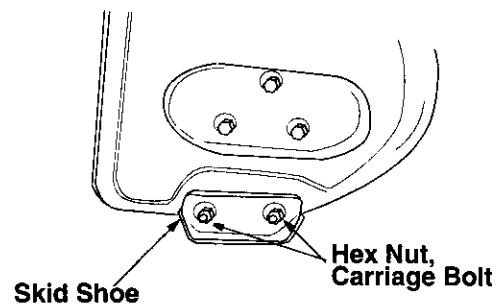

Figure 16
- For snow removal from uneven ground like gravel, adjust skid shoes downward to create sufficient clearance between the bottom edge of shave plate and the ground. See Figure 16.
- Adjust the skid shoes by loosening the four hex nuts and carriage bolts and moving skid shoes to desired position. Make certain the entire bottom surface of skid shoe is against the ground to avoid uneven wear on the skid shoes. See Figure 16.